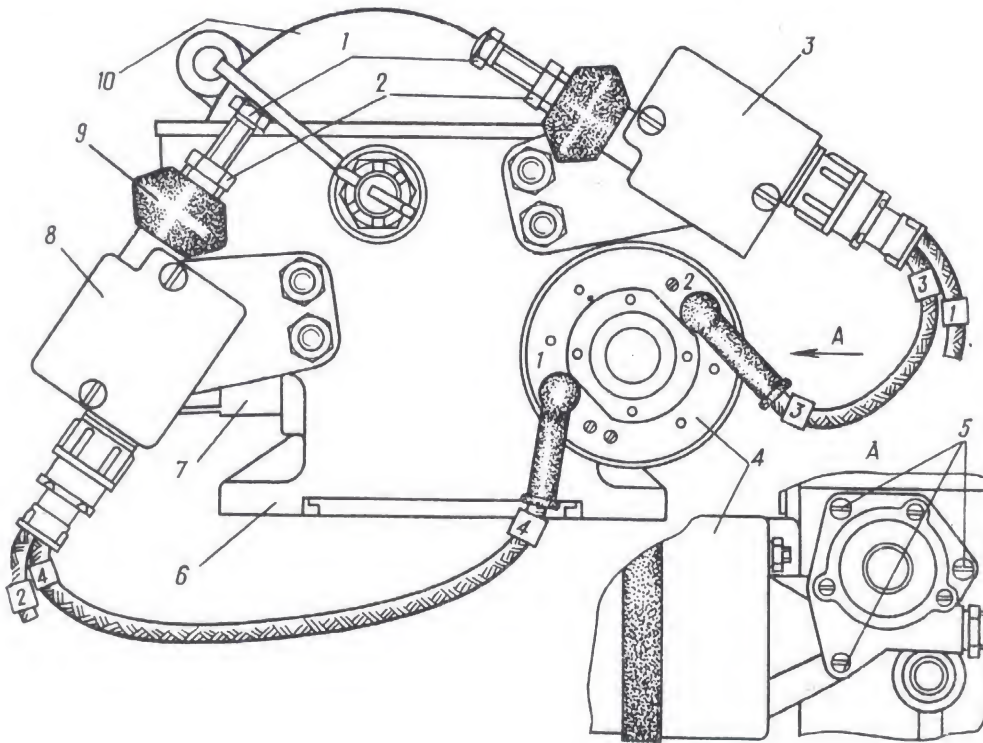

FIG. 90. INSTALLATION OF LIMIT SWITCHES OF AIR INLET AND AIR OUTLET DOORS ELECTRIC CONTROL
Secured on housing 6 (Fig. 90) is control motor 4 and two limit switches 8 and 3. Limit switch 8 disconnects control motor 4 when the doors are fully shut and limit switch 3 disconnects the motor when the doors are fully open.
- WARNING. 1. If the wires of the control motor or the limit switch connectors were disconnected, check whether they are connected properly according to their marking prior to switching-on of the control (see Fig. 90).